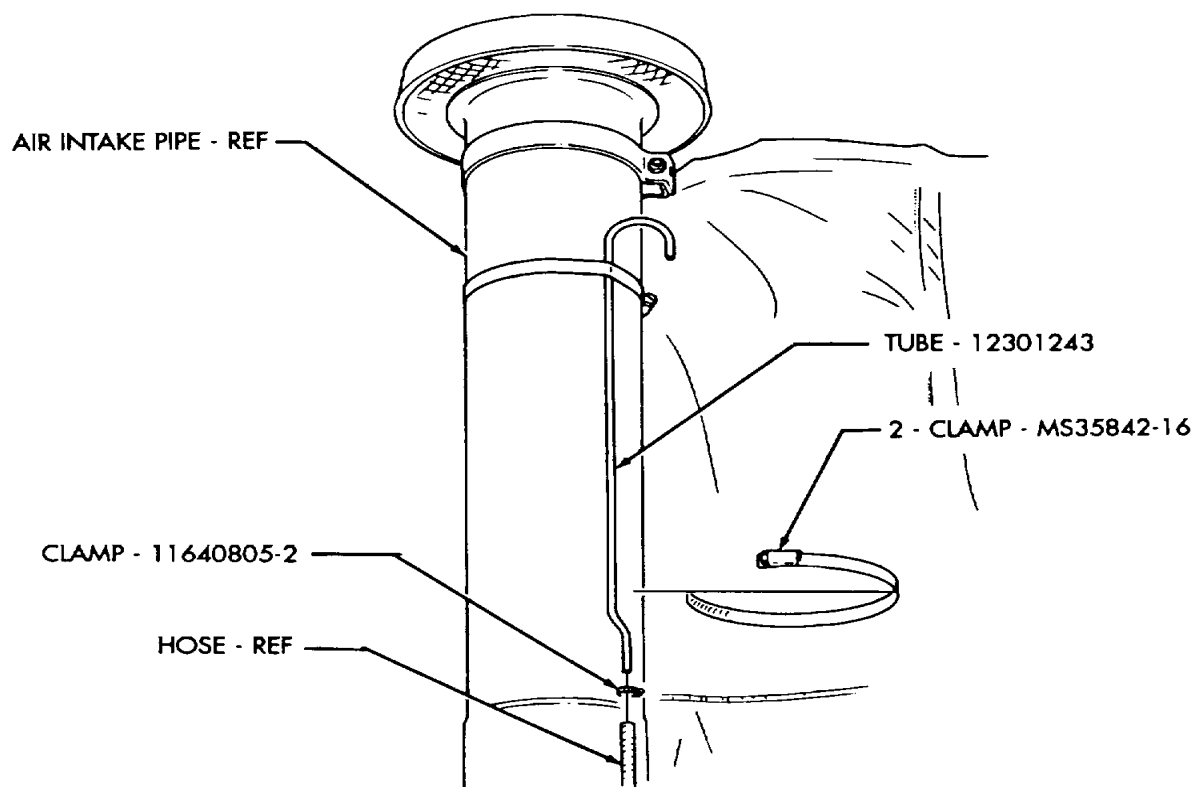

FIGURE 12
- (8) Install 12301243 tube on hose with 11640805-2 clamp as shown in figure 12.
- (9) Install tube on air intake pipe with two MS35842-16 clamps as shown in figure 12. Remove excess clamp ends.